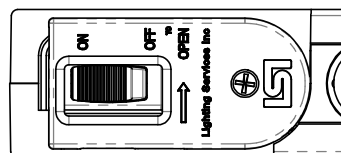

FIGURE 5. FITTING WITH SWITCH ON AND POWER HANDLE CLOSED
4. CLOSE THE POWER AND DATA HANDLES AND FLIP THE FITTING SWITCH ON (**FIG. 5, 7**).